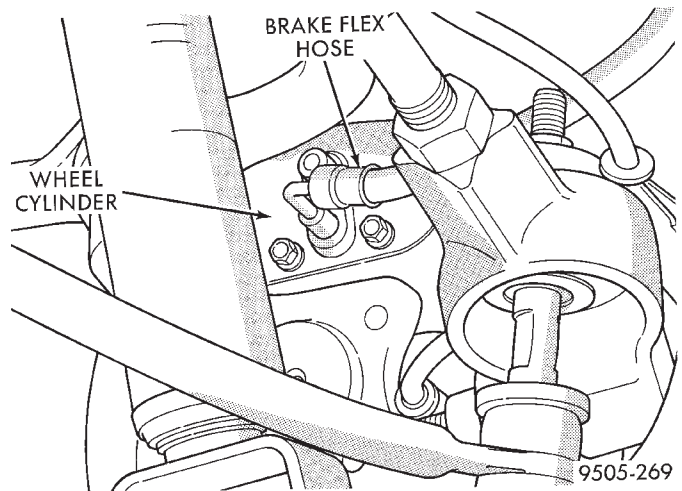

Fig. 103 Brake Flex Hose At Wheel Cylinder
(1) In case of a leak, remove brake shoes (replace if soaked with grease or brake fluid.)
(2) Disconnect rear brake flex hose tube from wheel cylinder and remove the flex hose routing bracket from the brake support plate (Fig. 103).
(3) Hand start hydraulic brake hose tube fitting to wheel cylinder (Fig. 103). Tighten the tube nut to a torque of 17 N·m (145 in. lbs.).
(4) Install brake shoes on support plate. Follow procedure for Installing Brake Shoe Assemblies in this section of the service manual.
(5) Install rear brake drum onto rear hub.
(6) Install the wheel and tire assembly. Tighten the wheel mounting stud nuts in proper sequence